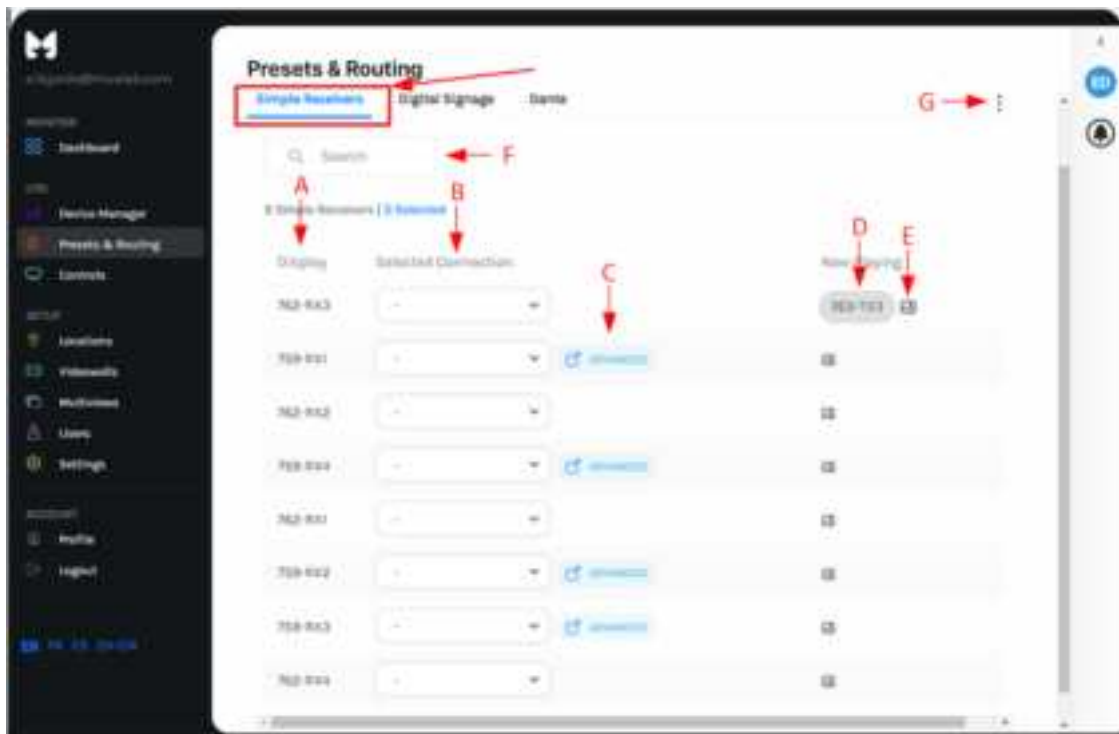

Figure 23
1. By clicking on this option, the system will show us a list of all the MuxLab transmitters and receivers that we have connected to the network, we will have the option of making connections between them and creating presets among other options. Figure 23